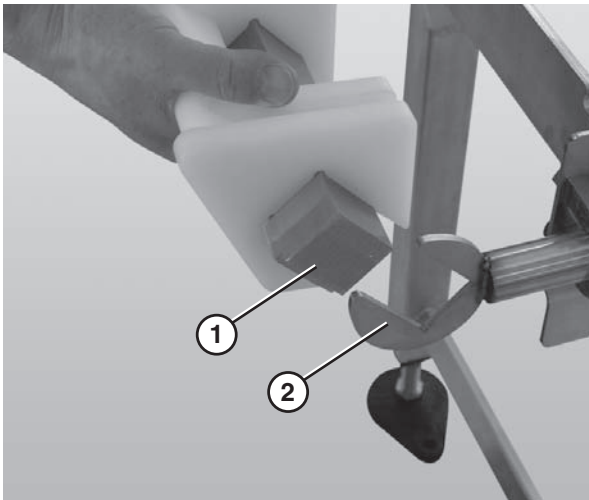

Figure 20
- Attach the nose bar transfer post (Figure 20, item 1) to the nose bar idler shaft hands (Figure 20, item 2).